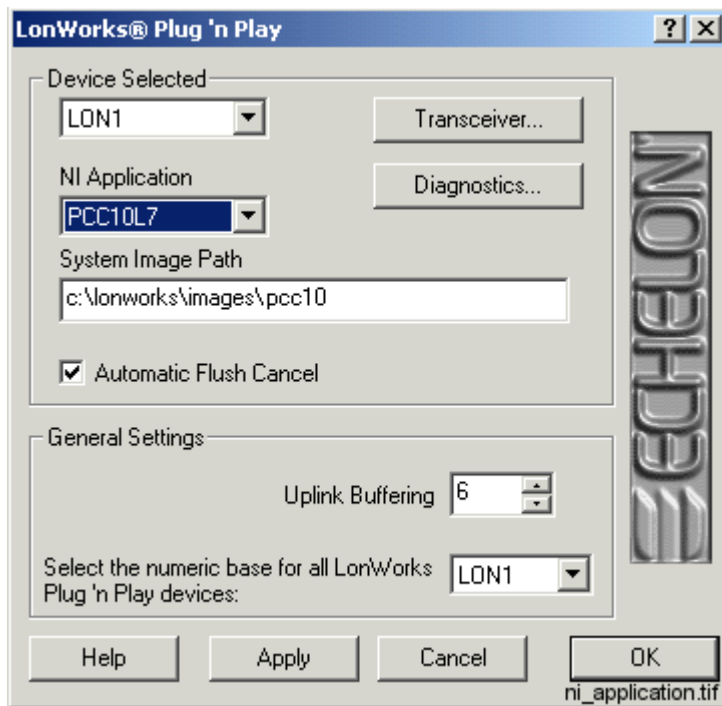

Fig. 5.5.3.2.-1 Selecting the correct NI Application
5. Check the Automatic Flush Cancel option as in Figure 5.5.3.2.-1 above.